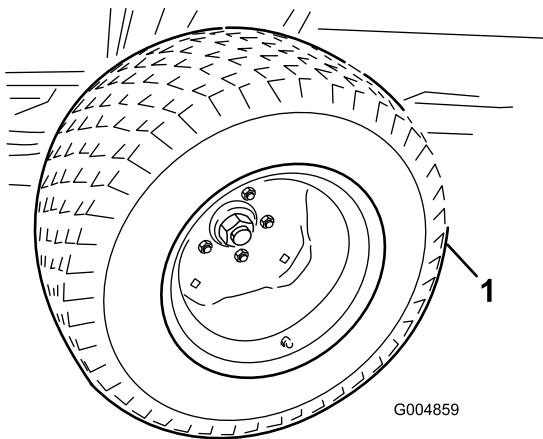

Figure 48
8. With the winter frame against the rear frame, raise the floor jack enough to remove the summer drive tires (Figure 48). Install the winter tires with 2 lug nuts per side.